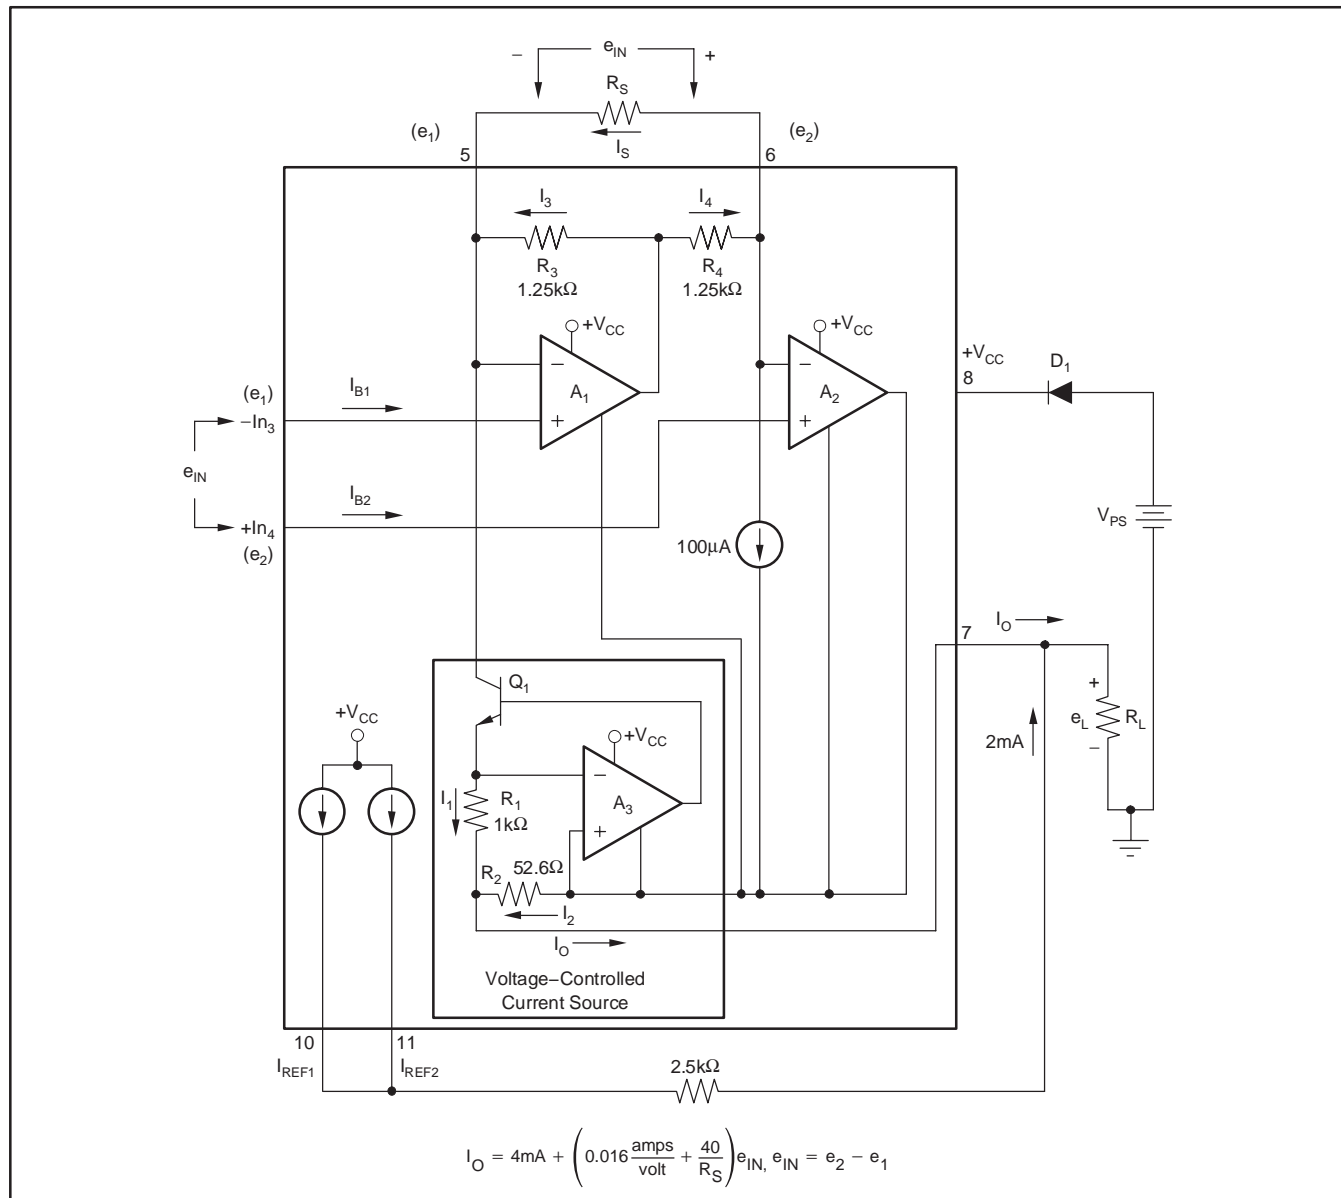

Figure 1. Simplified Schematic of the XTR101
A simplified schematic of the XTR101 is shown in Figure 1. Basically, the amplifiers  $A_1$  and  $A_2$  act as a single power-supply instrumentation amplifier controlling a current source,  $A_3$  and  $Q_1$ . Operation is determined by an internal feedback loop.  $e_1$  applied to pin 3 will also appear at pin 5, and similarly,  $e_2$  will appear at pin 6. Therefore, the current in  $R_S$  (the span setting resistor) will be  $I_S = (e_2 - e_1)/R_S = e_{IN}/R_S$ . This current combines with the current  $I_3$  to form  $I_1$ . The circuit is configured such that  $I_2$  is 19 times  $I_1$ . From this point, the derivation of the transfer function is straightforward but lengthy. The result is shown in Figure 1.
See Figure 1 for the basic connection of the XTR101. A difference voltage applied between input pins 3 and 4 will cause a current of 4-20mA to circulate in the two-wire output loop (through  $R_L$ ,  $V_{PS}$ , and  $D_1$ ). For applications requiring moderate accuracy, the XTR101 operates very cost-effectively with just its internal drive transistor. For more demanding applications (high accuracy in high gain), an external NPN transistor can be added in parallel with the internal one. This keeps the heat out of the XTR101 package and minimizes thermal feedback to the input stage. Also, in such applications where the  $e_N$  full-scale is small ( $< 50\text{mV}$ ) and  $R_{SPAN}$  is small ( $< 150\Omega$ ), caution should be taken to consider errors from the external span circuit plus high amplification of offset drift and noise.
7. It is recommended that a reverse polarity protection diode ( $D_1$  in Figure 1) be used. This will prevent damage to the XTR101 caused by a momentary (such as a transient) or long-term application of the wrong polarity of voltage between pins 7 and 8.